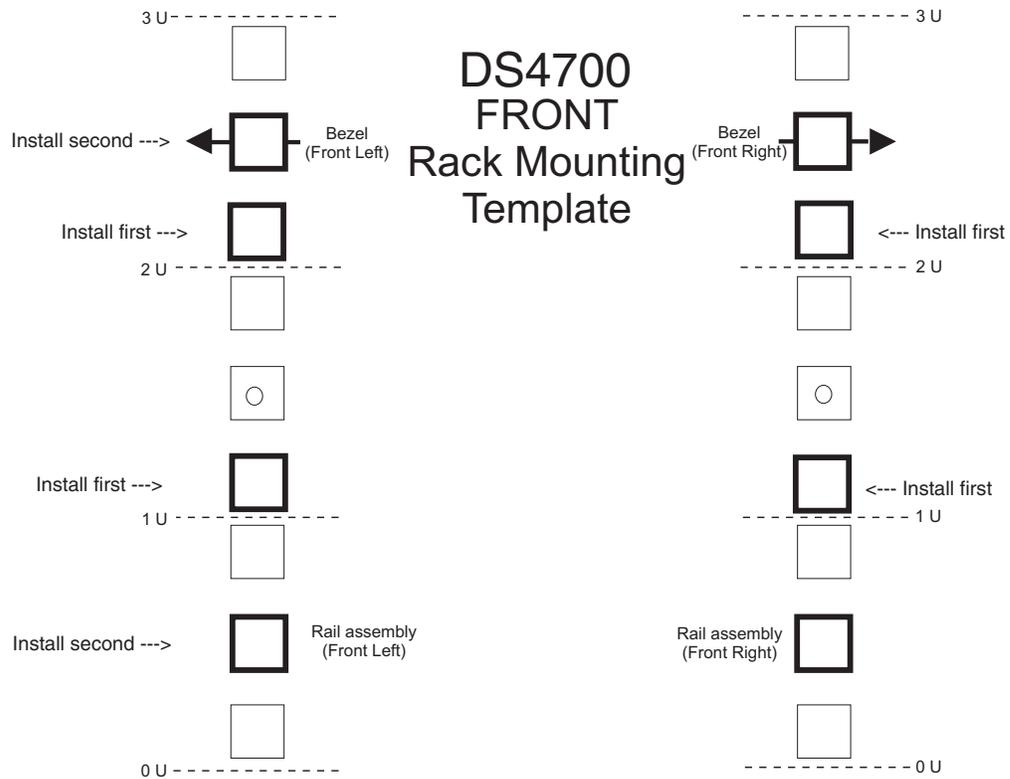
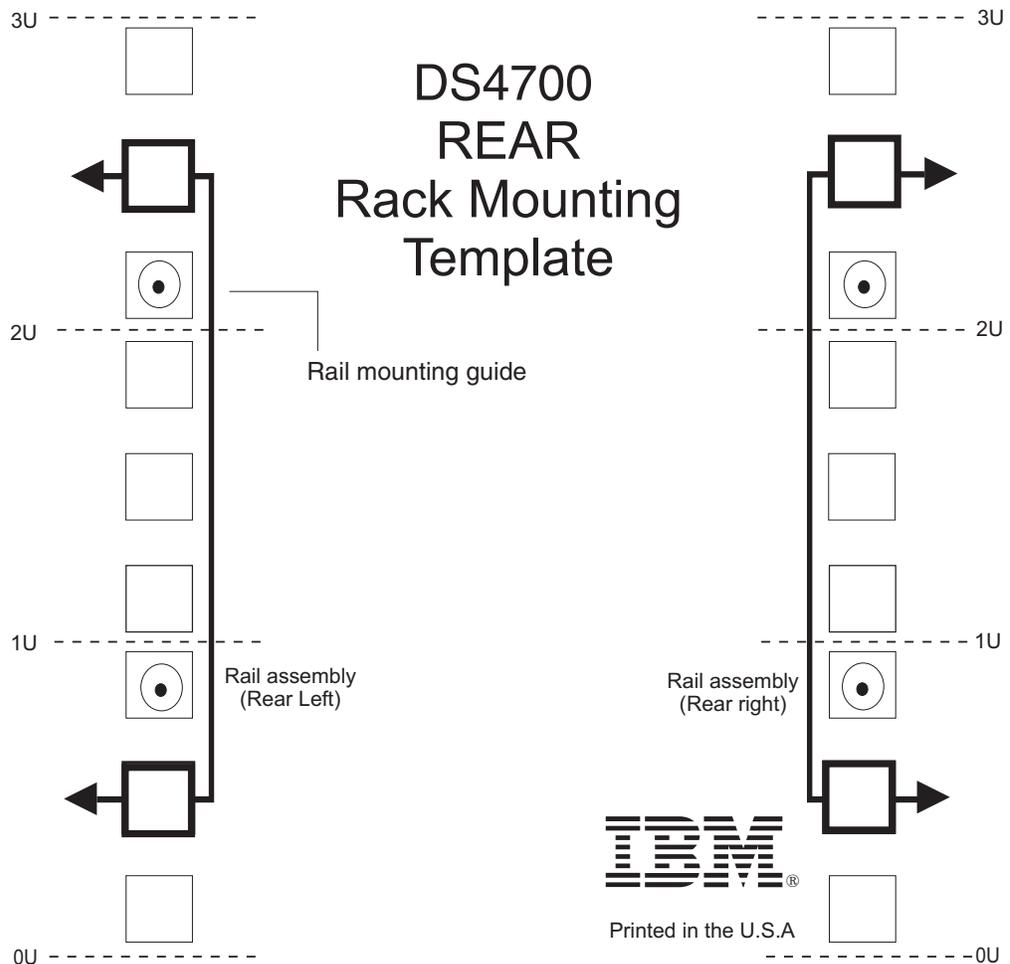

Figure 13. Front rack mounting template
Figure 14. Rear rack mounting template
Use the following templates (Figure 13 on page 29 and Figure 14 on page 30) to identify the proper locations for inserting M5 screws when mounting the support rails and DS4700 Storage Subsystem to a rack cabinet. The locations for the M5 screws are highlighted in the templates.
**Attention:** Use the rack mounting template provided in Figure 13 on page 29 and Figure 14 on page 30 to locate the proper rack mounting holes for installing the support rails into the rack.
- The lip on the rail should line up with the bottom of the storage subsystem (the 0U boundary in Figure 14 on page 30.)
6. Hold the back of the rail against the inside of the rack-mounting flange. Make sure the rail mounting guide pins are in the correct holes. See Figure 14 on page 30 for illustration.
**Note:** Be sure to install the screw labeled *install first* in Figure 13 on page 29.